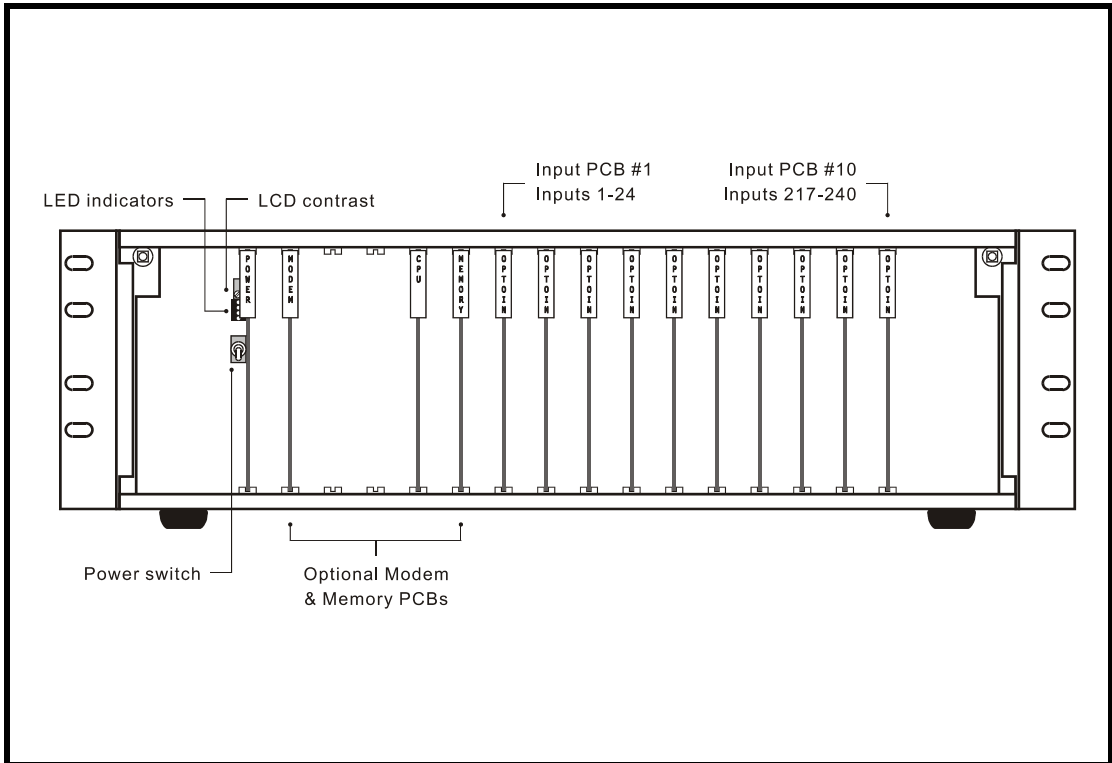

Figure 2 - PCB Positions
2. Ensure that the power switch is in the off or down position. It is located towards the left side of the unit on the printed circuit board (PCB) labeled "POWER". Figure 2 on page 6 illustrates the location of the power switch and PCBs.
11. Perform a Dump of the Event Records by pressing **D** then **Enter** four times at the PC keyboard. Refer to the section entitled “Selective Dump of Events (D)” on page 32.
13. Before completing the Initial Check-out Procedure verify that the Liquid Crystal Display (LCD) is providing acceptable contrast. If it needs to be adjusted rotate the potentiometer on the Power Supply PCB. Refer to Figure 2 on page 6.